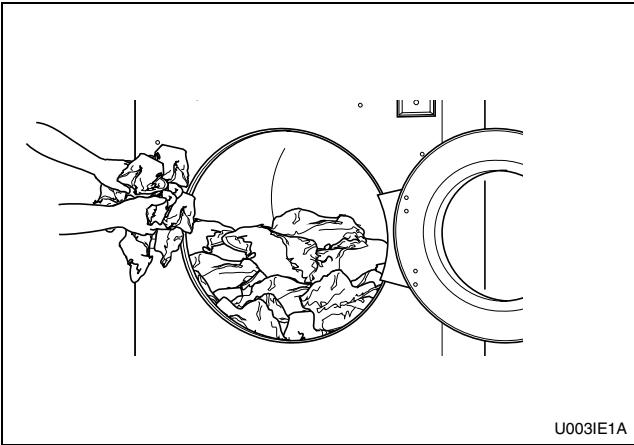

Figure 10
5. Load to capacity whenever possible. DO NOT OVERLOAD. Refer to *Figure 10*.